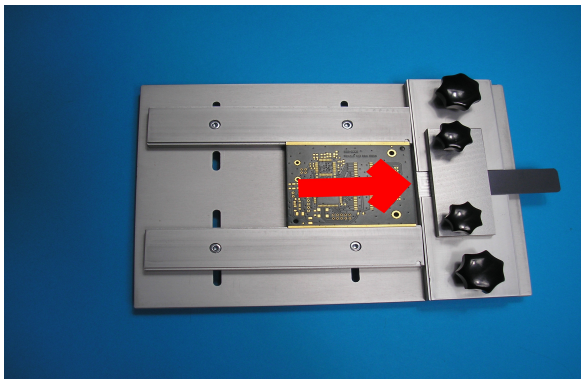
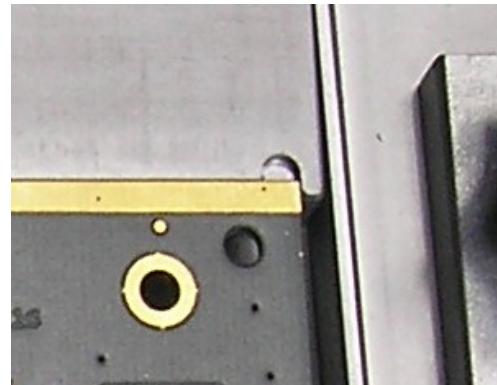

Fig. 5
Fig. 5a
- 7) Push the PCB up to the stop of the upper PCB holder B in Fig. 5 (Fig. 5a).